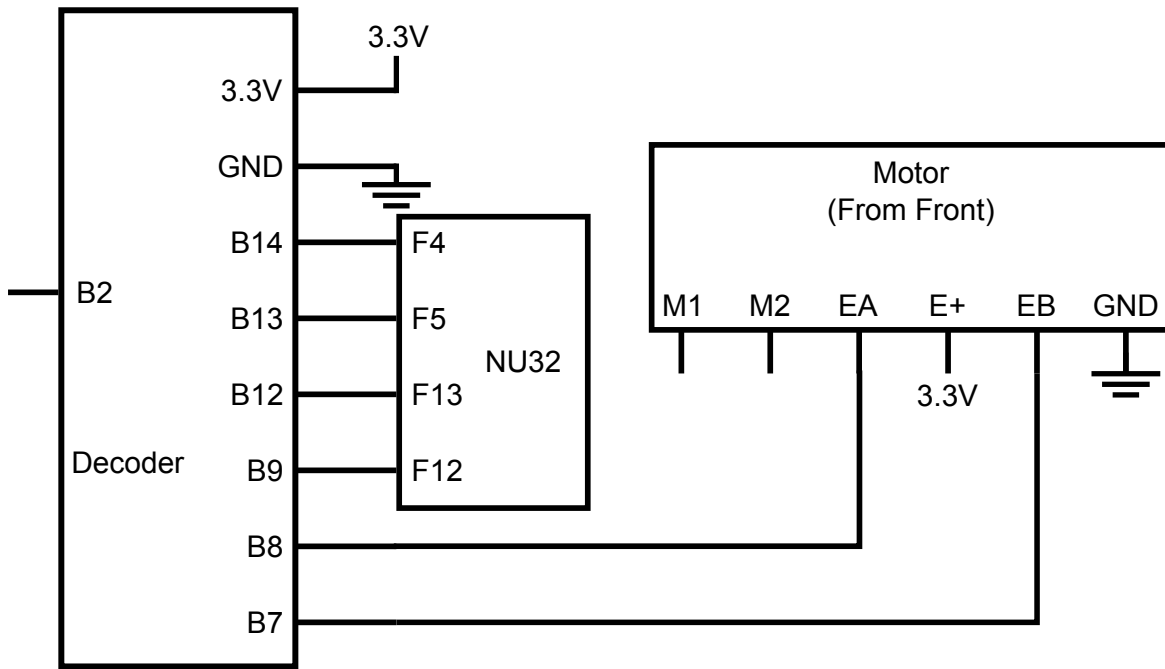

Figure 16.4: Encoder counter circuit
1. Power the encoders by connecting the Vcc and GND pins, as depicted in Fig. 16.4.
Next, connect the encoders to the quadrature chip and connect the chip to the SPI peripheral of your choosing, as per Fig. 16.4. The quadrature chip uses SPI to communicate: the details about how to communicate with this chip are provided in Ch. ???. After connecting the encoder chip, you should verify that it works by attaching the oscilloscope to pin B2 and checking for the 1 KHz heartbeat signal.